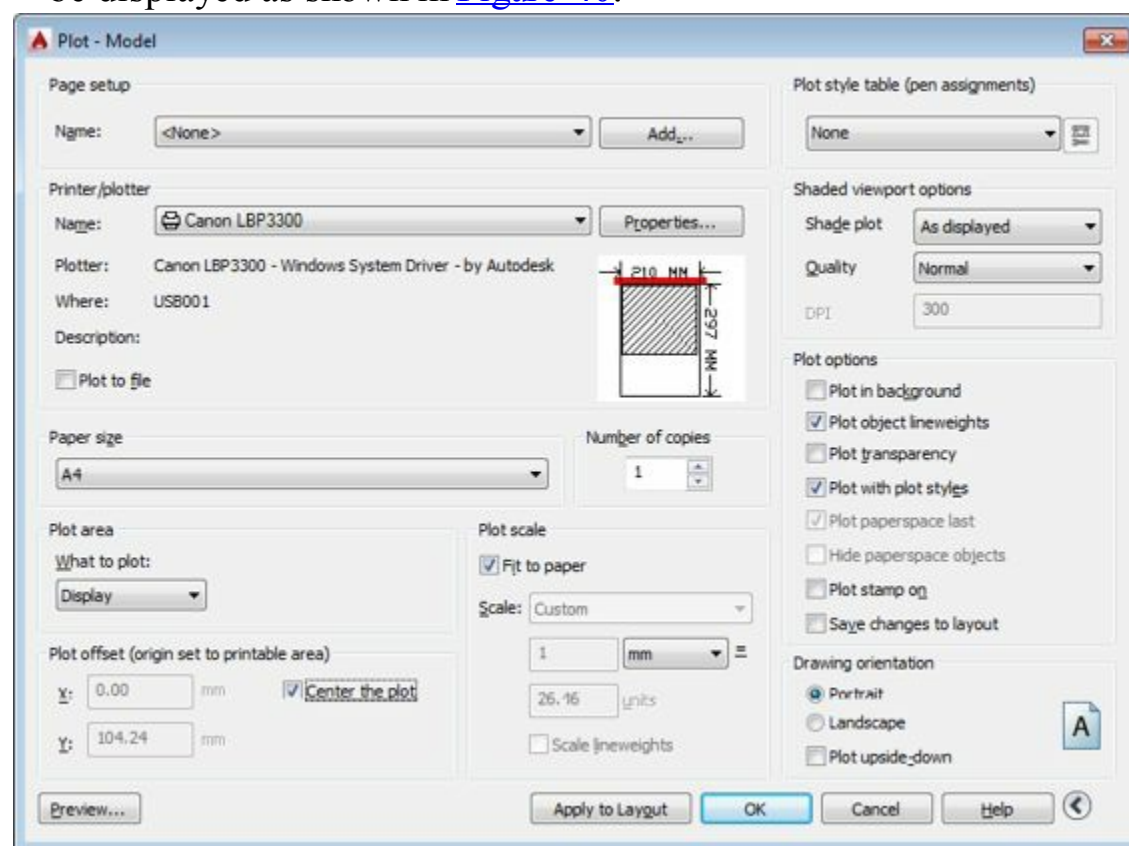

Figure-40. Expanded Plot dialog box
- Click on **More options** button or press **ALT + >** to expand the dialog box. The dialog box will be displayed as shown in Figure-40.